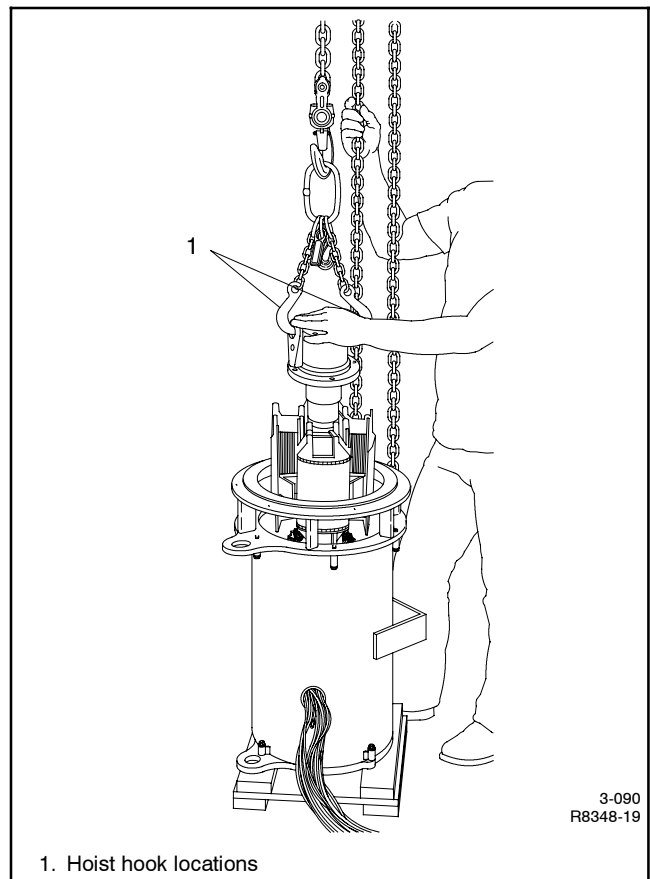

Figure 4-7 Rotor Removal
17. Fasten the lifting eye and hoist hook to the rotor flange. Hoist the rotor assembly carefully to avoid damaging the photo transistor circuit board, exciter armature, or exciter field magnets. See Figure 4-7.